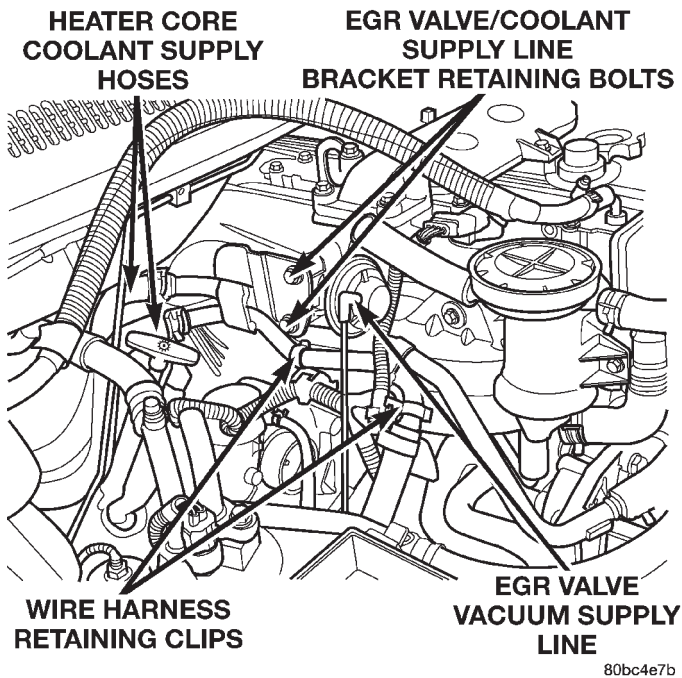
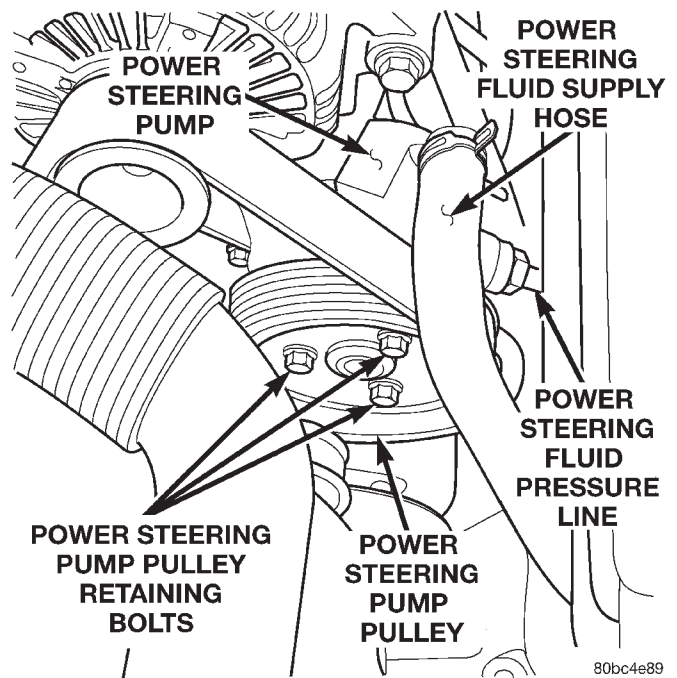

Fig. 11 Engine Compartment View - Rightside
Fig. 12 Power Steering Fluid Lines At Pump
- (36) Remove the cooling module assembly retaining bolts and remove the cooling module from the vehicle.
- (37) Remove the coolant reservoir supply hose from the engine .
- (38) Remove the coolant recovery hose from the water manifold.
- (39) Remove the EGR valve vacuum supply line from the valve (Fig. 11).
(40) Remove the heater core coolant supply lines from the engine assembly (Fig. 11).
(41) Remove the refrigerant line from the A/C accumulator assembly.
(42) Disconnect the oil pressure and boost pressure sensor electrical connectors and unclip wire harness from the coolant supply lines.
(43) Disconnect the engine ground. Located just behind the oil filter.
(44) Remove the refrigerant line retaining nut from the bulkhead and remove the refrigerant liquid line from the vehicle.
(45) Cut the tiestraps retaining the wire harness to the refrigerant line. Located above the compressor assembly.
(46) Remove the refrigerant line support bracket bolt from the cylinder head cover.
(47) Remove both of the refrigerant line retaining bolts from the compressor and remove the lines from the vehicle.
(48) Remove the power steering fluid supply hose from the pump (Fig. 12).
(49) Remove the power steering fluid pressure line from the pump (Fig. 12).
(50) Remove the vacuum supply hose from the engine mounted steel vacuum source line.
(51) Disconnect the generator field wire connector from the rear of the generator.
(52) Unclip the battery feed wire cover and remove the wire from the top of the generator.
(53) Disconnect the speed control servo vacuum supply hose from the engine mounted steel vacuum source line.